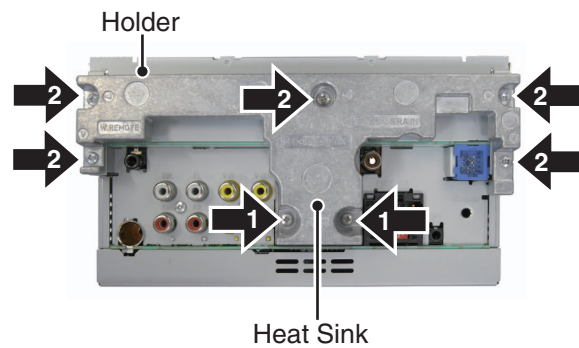

Fig.7
● Removing the Chassis(Upper) (Fig.7, 8)
- ➔ 1 Remove the two screws. (Fig.7)
- ➔ 2 Remove the five screws and then remove the Heat Sink. (Fig.7)
Remove the Holder. (Fig.7)